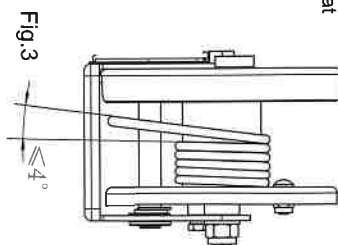

Fig.3
4. Fitting the winch with the fleet angle no more than 4°.(Fig.3)